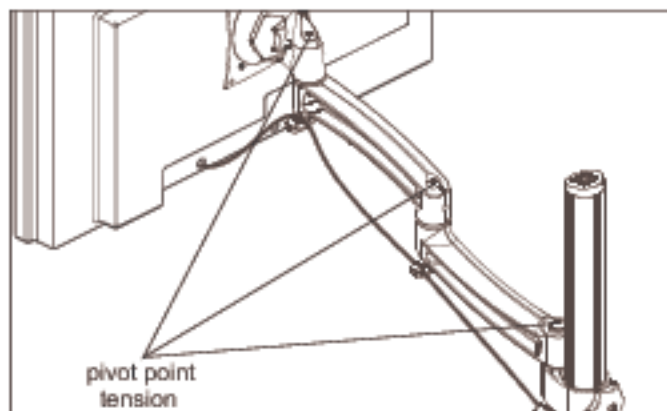

Figure 9
1. Adjust pivot position as desired. (See Figure 9)
2. Adjust pivot point tension screws to change pivot adjustment tension. (See Figure 9)